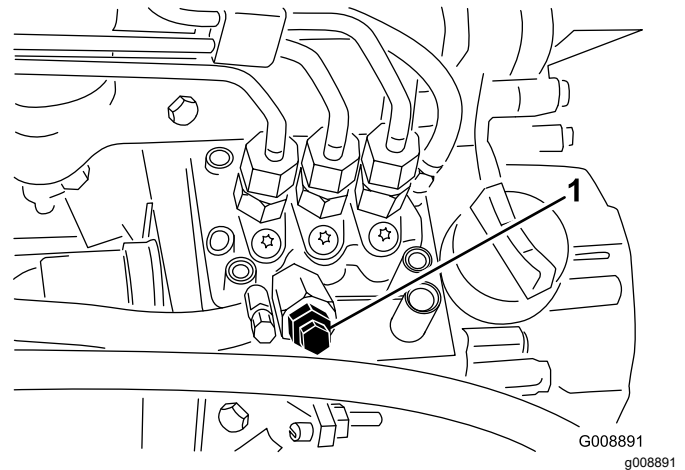

Figure 35
- Open the air-bleed screw on the fuel-injection pump (Figure 35).